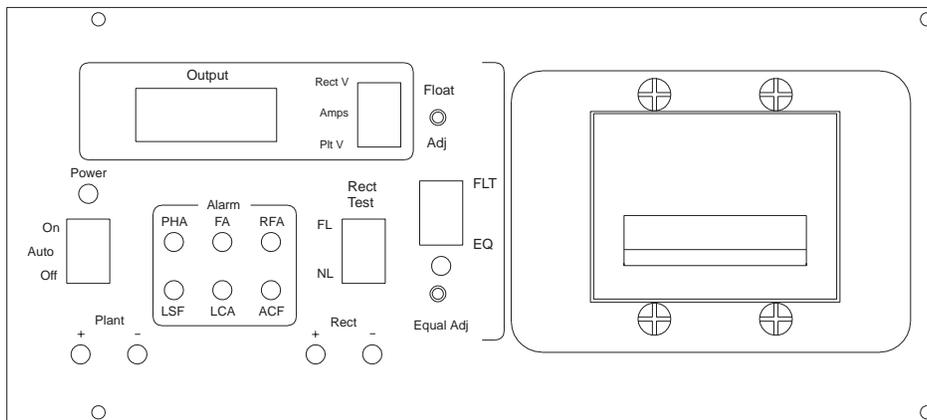

Figure 2-1: J85603C-2 Control Panel
Figure 2-1 shows the control panel on front of the J85603C-2 rectifier. The following list describes the controls and indicators on the control panel. Bold letters indicate labels that appear on the control panel or inside the rectifier.
In Figure 2-1, “Equal Adj” and “EQ” LEDs may be labeled “Boost” and “BST,” respectively, for international customers.
- CM3** The **CM3** circuit module (323D Digital Meter Board) controls the digital **Output** meter and all indicators on the rectifier control panel. The meter displays the rectifier's output current, voltage, or the plant battery voltage, depending on the position of the selector switch. See Figure 2-1.